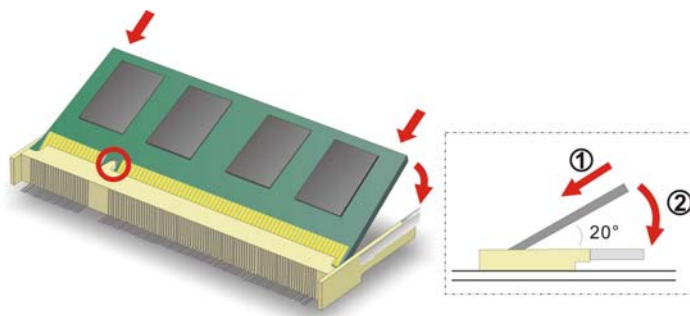

Figure 3-3: SO-DIMM Installation
- Step 4:** **Insert the SO-DIMM.** Push the memory in at a 20° angle (**Figure 3-3**)
- Step 5:** **Seat the SO-DIMM.** Gently push downwards and the arms clip into place. See **Figure 3-3**.